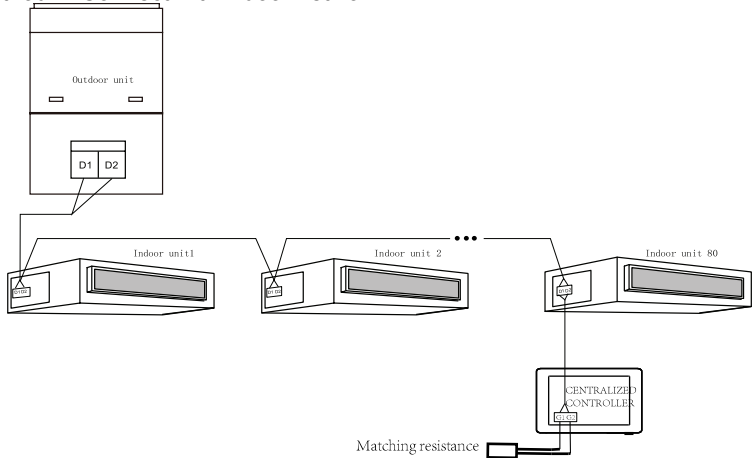

Figure 3-4 Centralized Controller Connected with Indoor Network
- (1) The centralized controller is applicable to multi VRF units, connectable with network of indoor units or the network of outdoor units. One centralized controller can control up to 16 sets of outdoor system and up to 255 sets of indoor unit.
- (2) If the centralized controller is to be connected with the network of indoor units, connect according to fig.3-4. The centralized controller can only be connected with the terminal unit of indoor network. A matching resistance needs to be added with the communication cords at the G1 and G2 ports.